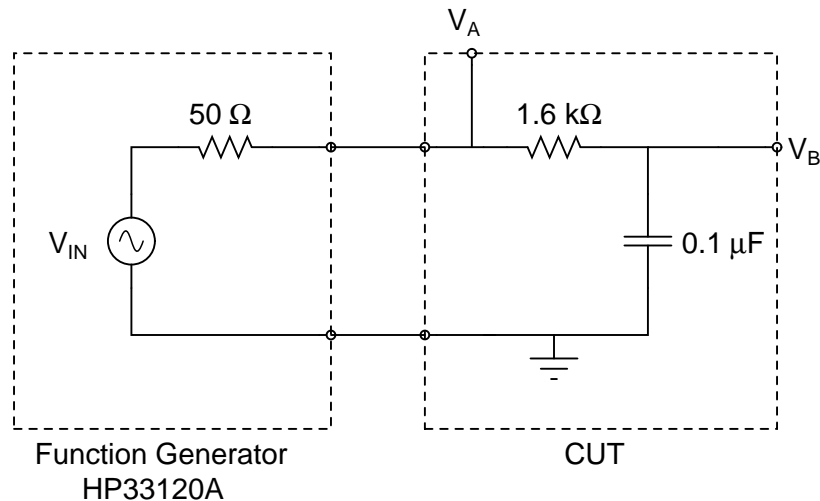

Figure 1: Circuit to be analyzed in Lab #2.
**Introduction** In this lab you will investigate the magnitude and phase shift that occurs in an RC circuit excited with a sinusoidal signal. You will also measure the output voltage that results from a transient input signal. The circuit under test (CUT) is shown in Figure 1. The 1X probes are not explicitly shown between the function generator and the CUT. Node voltages  $V_A$  and  $V_B$  will be measured by the oscilloscope. The probe capacitance and oscilloscope input impedance should be always be included when analyzing a circuit if they influence the circuit behavior.
3. For the RC circuit shown in Figure 1:
- For the circuit in Figure 1, use Micro-cap to simulate the node voltages  $V_A$  and  $V_B$  and the phase shift (PS) in degrees between the two nodes with the AC amplitude set to 5 V. Record your results in the Simulated Circuit “A” columns in the table below.
- Modify the circuit schematic in Figure 1 to include the 1X probe capacitance and the input capacitance of the oscilloscope at both nodes  $V_A$  and  $V_B$ . Use Micro-cap to simulate the node voltages  $V_A$  and  $V_B$  and the phase shift (PS) in degrees between the two nodes with the AC amplitude set to 5 V. Record your results in the Simulated Circuit “B” columns in the table below.
- Measure the values for each component needed in the circuit shown in Figure 1 using the LCR meter and a DVM. When measuring the capacitance of the  $0.1\mu\text{F}$  capacitor, measure both C and D at frequencies of 100 Hz, 1 kHz, and 10 kHz. Calculate the ESR of the capacitor. Can the ESR be ignored? Explain your reasoning in your notebook.
- Build the circuit shown in Figure 1. Set the  $V_{IN}$  to a 5V peak sine wave at a frequency of 100 Hz.